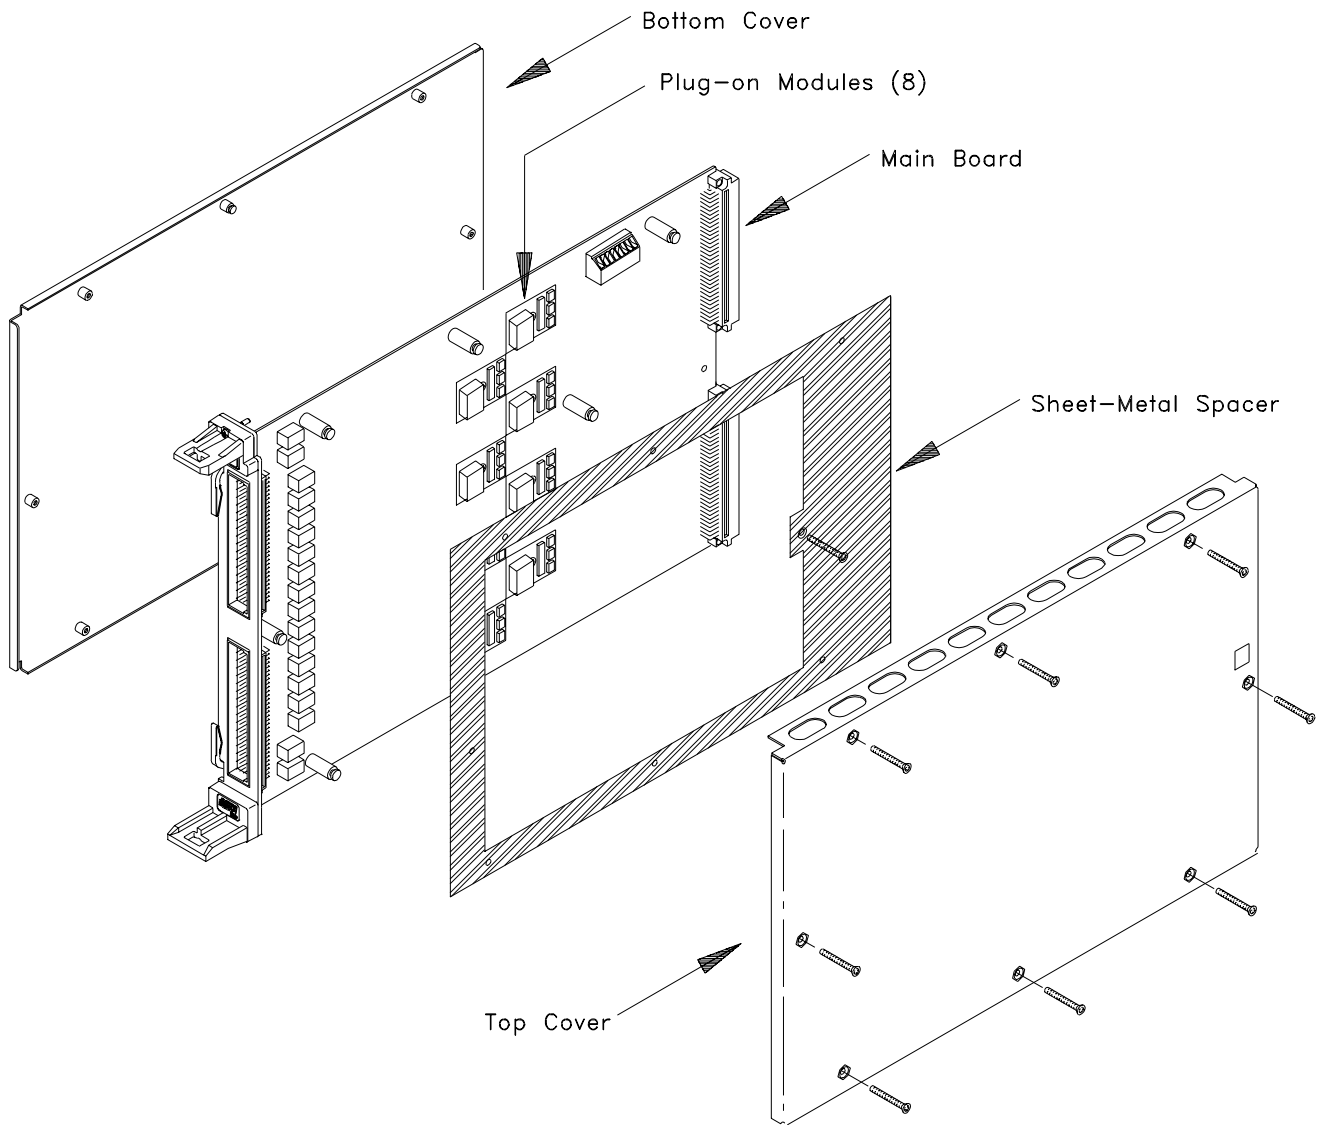

Figure E-1. 8-Channel Disassembly
Refer to Figures E-1 and E-2 during these procedures.
1. Remove the top cover. Refer to Figure E-1.
Refer to Figures E-1 and E-2 during these procedures
2. Remove the screw holding the sheet-metal spacer (Figure E-1) or expansion board (Figure E-2). Remove the spacer or expansion board.